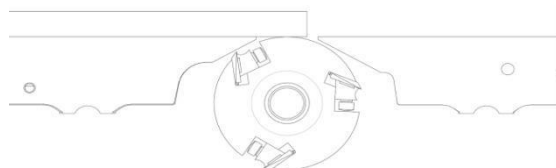

Fig.43: Straight Edge
STEP 1: Place a straight edge on outfeed table over the cutterhead and slightly touching the cutterhead body as shown in **FIG. 43**.